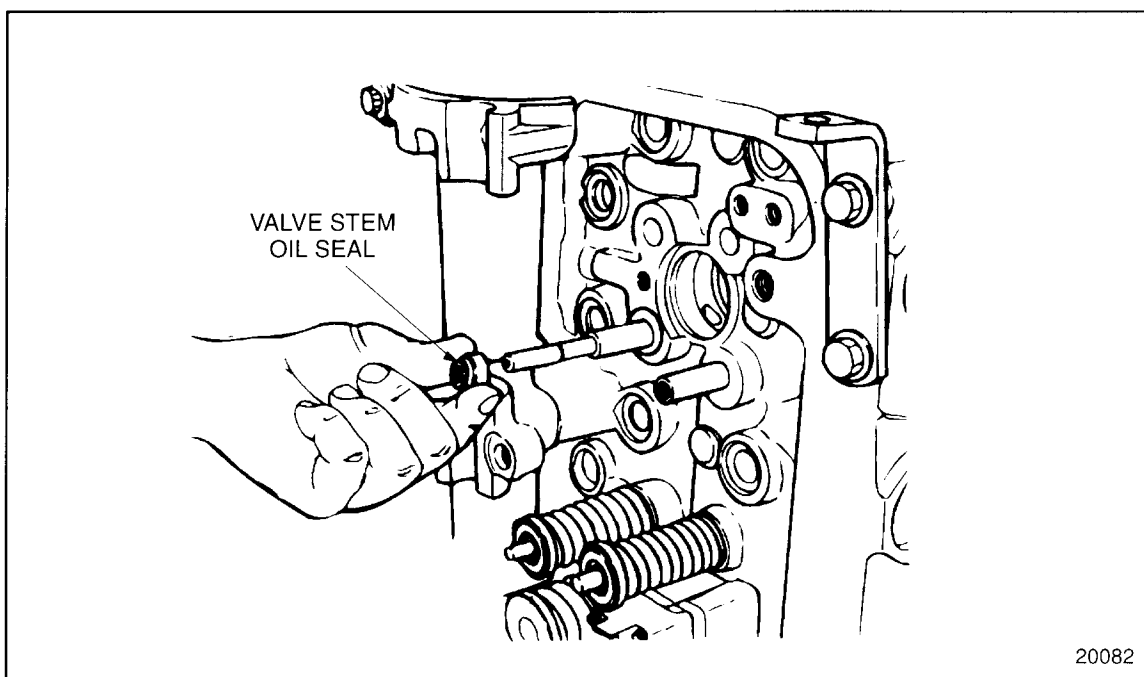

Figure 1-90 **Valve Stem Oil Seal Installation**
5. The valve stem oil seal may be installed with or without oil. Push the seal over the protector. See Figure 1-90.